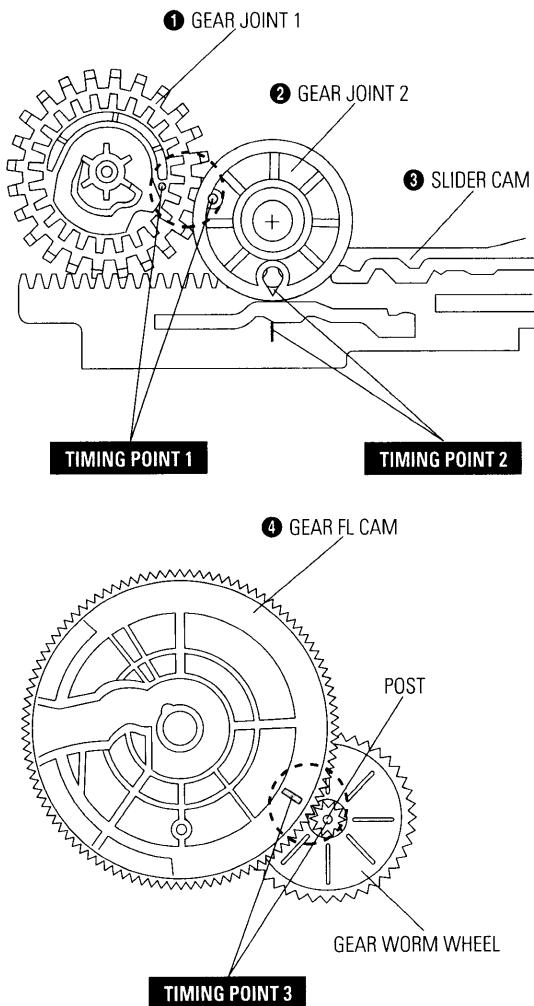

Fig. 4-15 Assembly of Gear FL Cam, Gear Joint 1, 2
- 1) Be sure to align dot mark of Gear Joint 1 ① with dot mark of Gear Joint 2 ② as shown Fig. 4-15 (Refer to Timing Point 1), confirm the Timing Point 2 of the Gear Joint 2 ② and Slider Cam ③.
- 2) Align the Gear FL Cam ④ with the Gear Worm Wheel Post as shown detail drawing. (Refer to Timing Point 3)